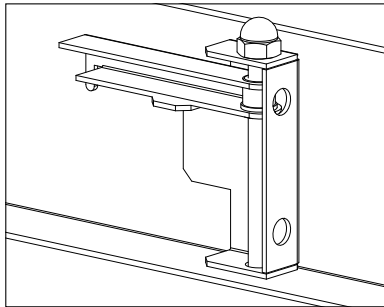

Figure 2
2. Fixture housing lays into grid. Verify four (4) swing arms in the stowed position as shown in Figure 2 (required to maintain fixture IP rating). If securing fixture to the superstructure with hanger wire (by others) loop wire through holes on swing arm attach bracket.